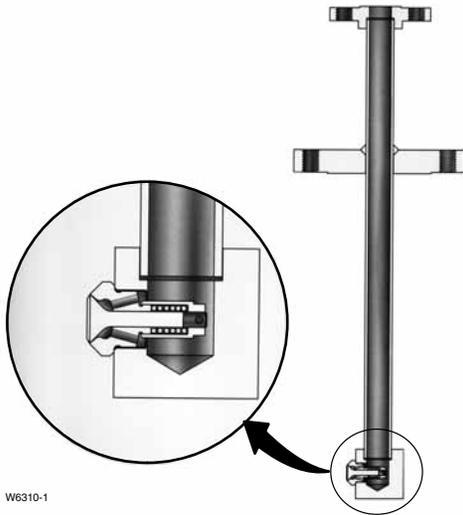

Figure 2. Design DMA/AF Desuperheater
- **Design DMA/AF**—A variable-geometry, mechanically atomized, back-pressure-activated desuperheater with one, two, or three spray nozzles is designed for applications requiring control over moderate load fluctuations. The Design DMA/AF desuperheater (figure 2) is installed through a flanged connection on the side of a DN200 (NPS 8) or larger pipeline. Maximum unit C_V is 15.0.